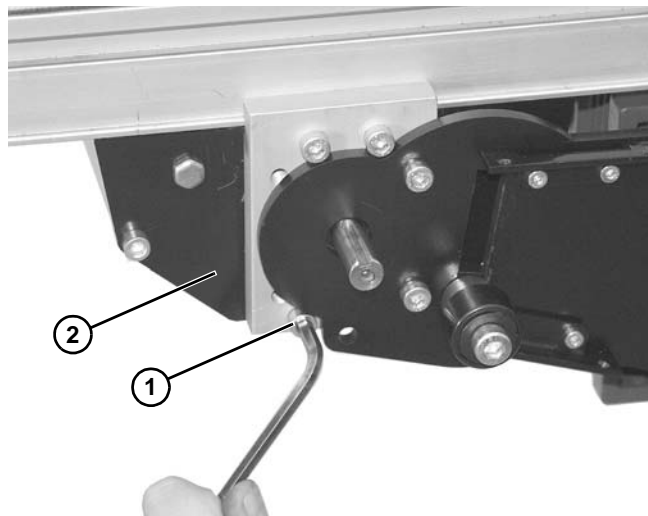

Figure 56
2. Remove two screws (Figure 56, item 1) from bottom of mid drive assembly (Figure 56, item 2).